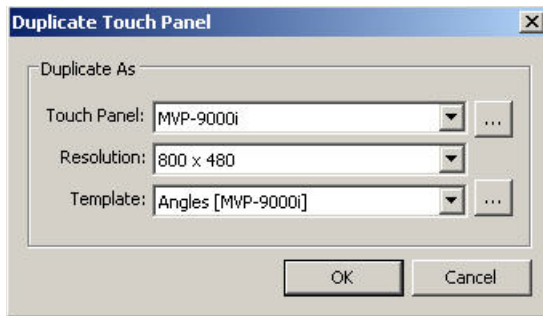

FIG. 138 Duplicate Touch Panel dialog
2. Select **Edit > Duplicate** (or right-click on the selected touch panel and select **Duplicate** from the System Diagram context menu). This action invokes the *Duplicate Touch Panel* dialog (FIG. 138).